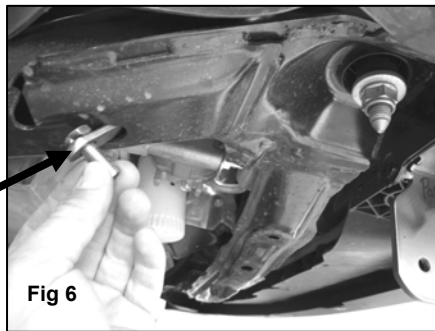

Fig 6
10. Extend Support Bracket towards the rear of the vehicle. The opposite mounting hole on the Support Bracket should reach its mounting location on the frame. Insert (1) Bolt Plate into factory hole on the frame (Figure 6).